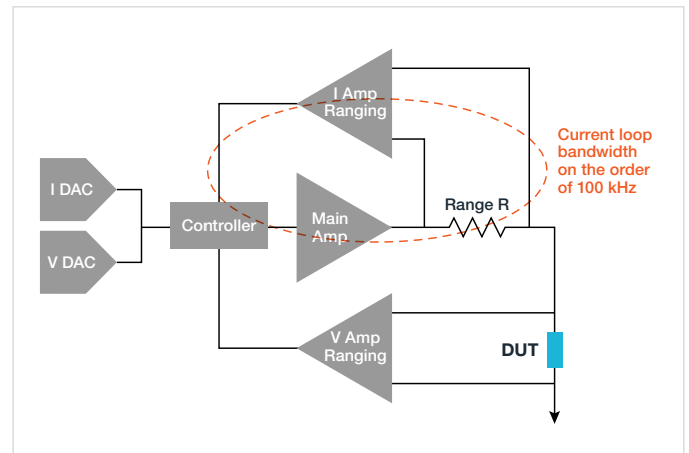

Figure 6. SMU limit circuit block diagram.
**Figure 6** offers a simplified view of limit circuit in SMUs. An SMU's limit circuit can deliver an accurate limit level and adjustable limit level for multiple applications. As a result, the limit circuit function has a bandwidth that's typically >100 kHz. However, this bandwidth speed is not fast enough for transient signals in breakdown situations. The traditional approach to addressing this issue has been to add series resistors circuits to the probe card. However, given that this method can result in inaccurate parameter results when performing other types of tests, many test engineers avoid using this technique.